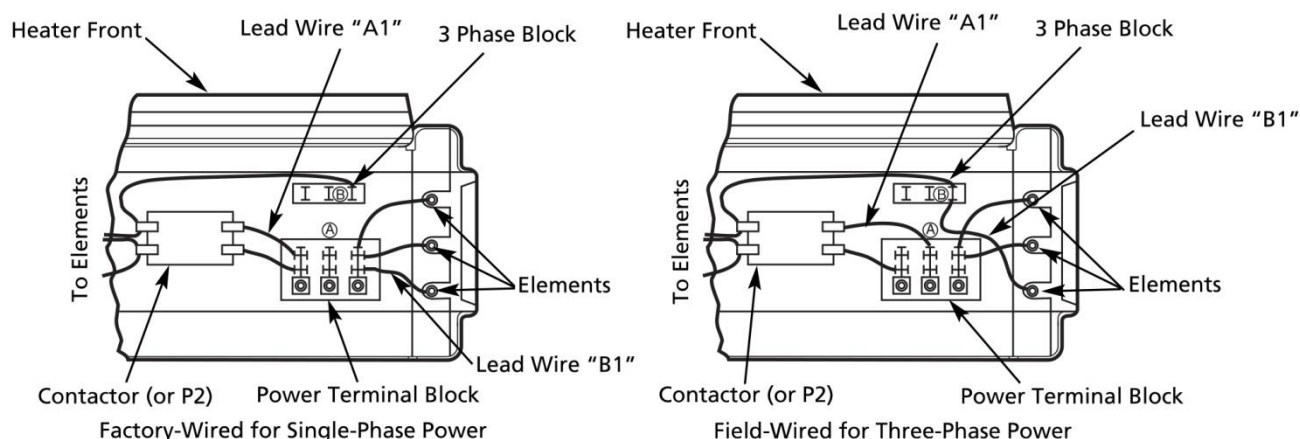

Figure 4a - Wiring Connections for Single-Phase and Three-Phase Power (DR-P275 and DR-P2100)
- 9 For model DR-P275 and DR-P2100 (Figure 4a), move only the two wires marked "A1" and marked "B1", do not move or change any other wiring. The element lead wire marked "B1" which is factory connected to the power terminal block (terminal located closest to the elements) must be moved to terminal "B" on the three-phase terminal block.